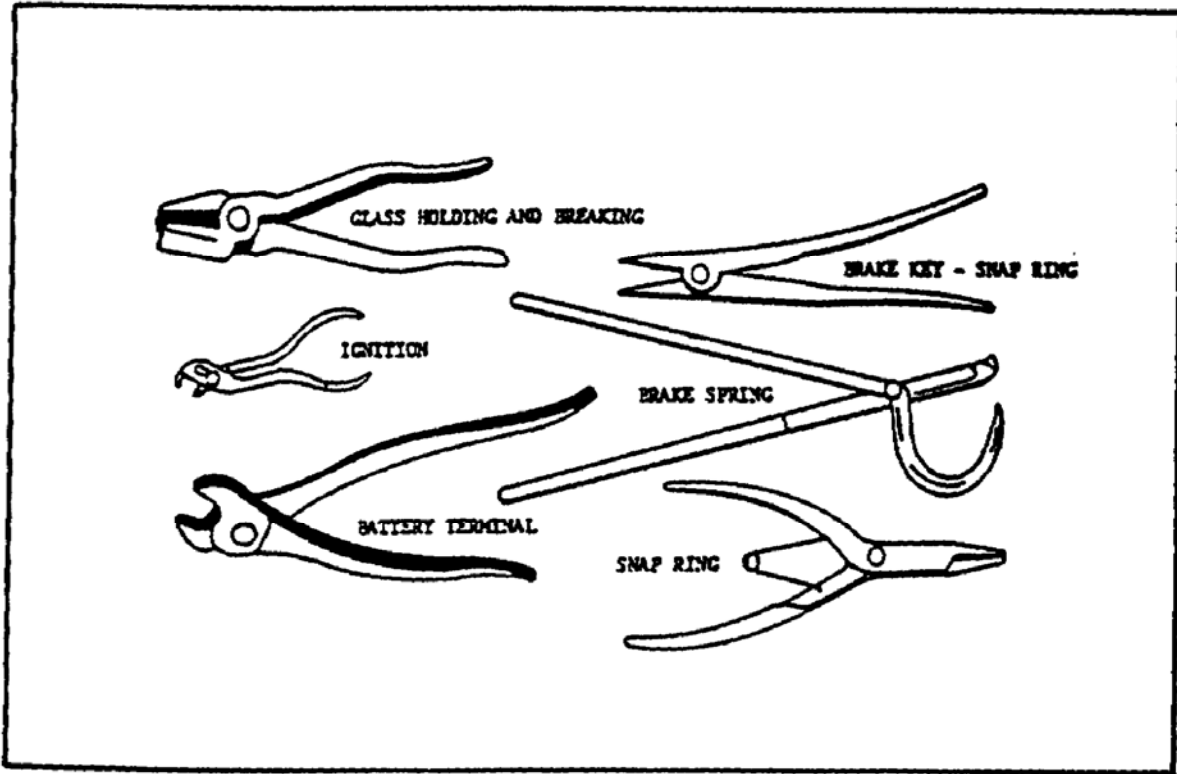

FIGURE 36. SPECIAL PURPOSE PLIERS.
(5) *Special Purpose Pliers* (figure 36). Some pliers are made for specific jobs, such as the brake spring pliers, glass holding and breaking pliers, ignition pliers, battery terminal pliers, and brake key and snap ring pliers.